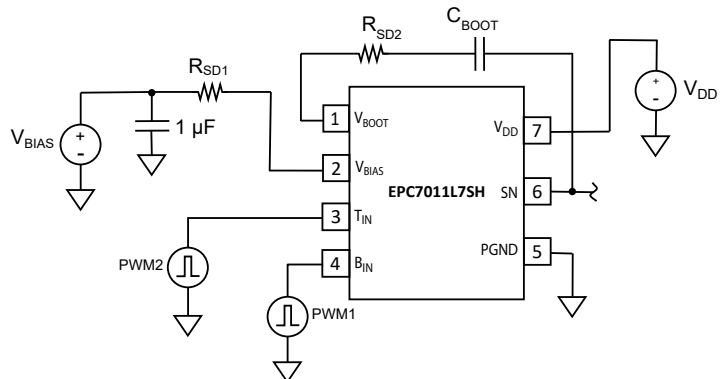

Figure 3. External Slow-Down Resistor Connections
The EPC7011L7SH is designed to be a high-speed power driver. As such it has extremely fast switching node (SN) rise and fall times by design. Fast rise and fall times can and will result in unwanted voltage spikes at the V_{DD} and PGND pins due to any parasitic layout inductance ($V_{SPIKE} = L_{Par} \cdot di / dt$). If as a result of the optimized PCB layout that these spikes cannot be reduced to an acceptable level, it is recommended that two resistors be added to the circuit to decrease the slew rates of the low- and high-side gate drive signals, which in turn decreases the slew rates of the switching node rise and fall times. These resistors, R_{SD1} and R_{SD2} are shown in Figure 3.